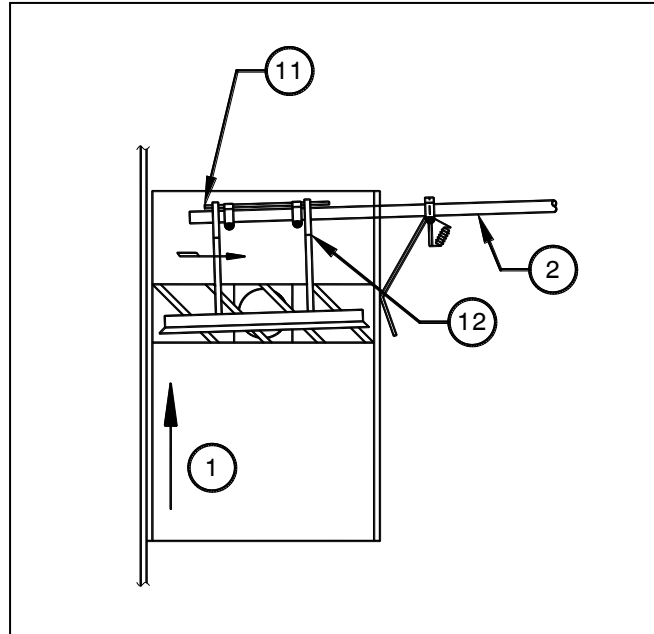

Figure 4.10b
- a. Adjust the scum scraper for parallel alignment with the scum box discharge leading "drop" edge, if necessary, referring to Figures 4.10b, 4.10c, and 4.10d. Shift the arm clevis and collar